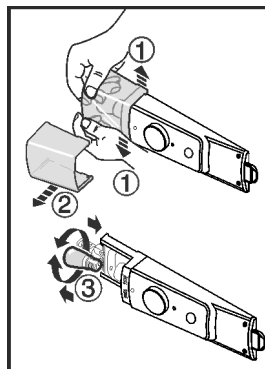

Fig. 10
- ▶ Push the lamp cover in and apart at the front *Fig. 10 (1)*, and remove to the side *Fig. 10 (2)* as shown in the illustration.
- ▶ Replace the lamp. *Fig. 10 (3)*